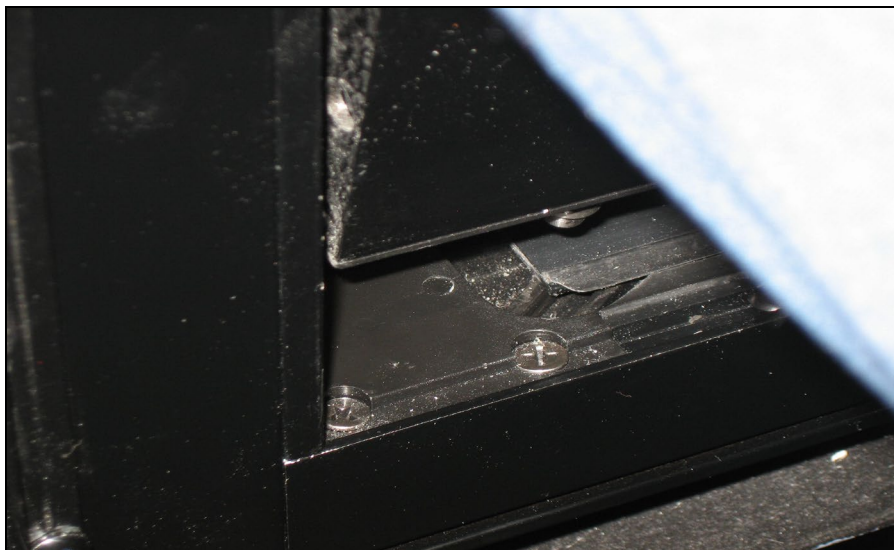

FIGURE 111: POSITIONING THE LOWER LEFT CORNER OF THE SASH
6. Confirm that both latches are in the closed (latched) position. The upper edge of the latch opening must be aligned with upper edge of the sash opening (Figure 111)